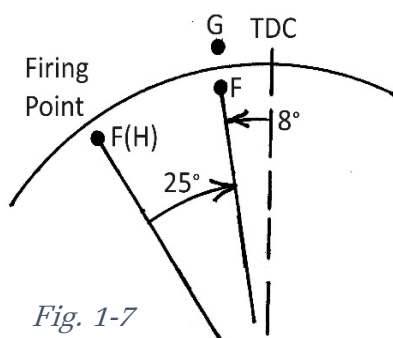

Fig. 1-7
Fig. 1-7 at left shows the results when using a **digital** timing light, which is incrementally adjusted by the operator to *delay* the strobe flash by 25° of crankshaft rotation. Although the spark plug *fires* at a crankshaft angle of 33° BTDC, we delay the strobe flash by 25° of crankshaft rotation, allowing the hidden mark at F(H) to
In summary, by using a digital timing light, the crankshaft angle of *delay* applied to the strobe flash by the operator is then equal to the crankshaft angle of *advance* applied by the centrifugal weights. Once the two timing marks, F and G, are again lined up as in Fig. 1-7, the timing light’s “advance” angle readout figure indicates the advance angle being applied by the centrifugal weights. The effects of the springs, weights and limit tabs of the centrifugal weights *can now be fully known*, as can the electronically generated timing advance provided by an electronic ignition. By this means, the ignition timing point (crankshaft angle) may be determined for *any* engine RPM between idle and the recommended maximum engine RPM *for engines fitted with either centrifugal weights or fully electronic ignition units*, with the aid of the “dial-back” digital timing light.